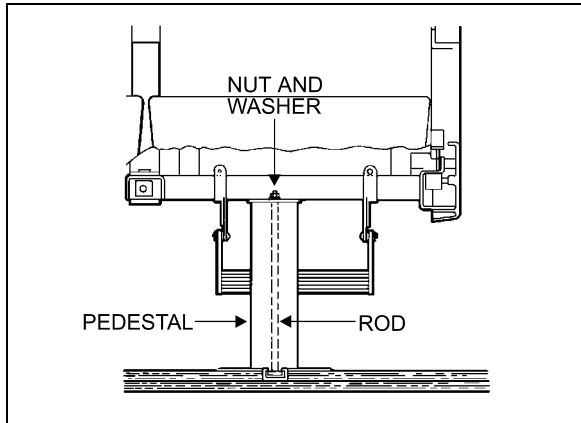

FIGURE 44: SEAT PEDESTAL ASSEMBLY 18107
5. Remove 2 nuts and washers holding seat frame to pedestal rods. See figure 44.